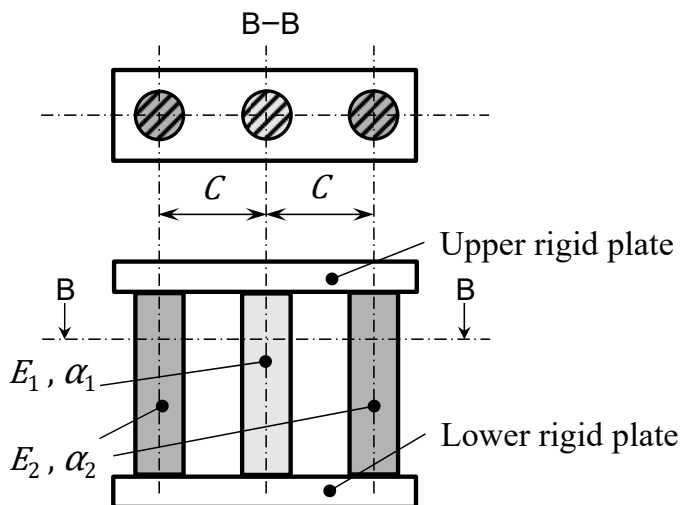
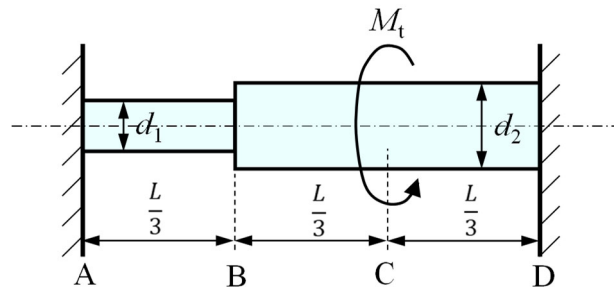

Fig. 1
Fig. 4
1. There are three columns whose cross-sectional area is  $A_0$  and whose natural length at temperature  $T_0$  is  $L_0$ . These three columns are bonded to the rigid plates at the top and bottom ends, as shown in Fig. 1. The column located in the center of the rigid plate has a longitudinal modulus of elasticity of  $E_1$  and a linear expansion coefficient of  $\alpha_1$ , while the two columns located at distance  $C$  on both sides of the central column have a longitudinal modulus of elasticity of  $E_2$  and a linear expansion coefficient of  $\alpha_2$ . Here,  $0 < E_1 < E_2$  and  $0 < \alpha_1 < \alpha_2$ . Ignore the self-weight of the columns and rigid plates. Answer the following questions.
3. Consider a stepped solid circular shaft shown in Fig. 4. The diameter and length of section AB are  $d_1$  and  $L/3$ , and those of section BD are  $d_2$  and  $2L/3$ , respectively.  $d_1$  is smaller than  $d_2$ . The shaft is fixed at the both ends, A and D, to vertical rigid walls. The shear modulus of the shaft material is  $G$ . As shown in Fig. 1, the shaft is twisted by the torsional moment  $M_t$  at position C, midpoint of section BD. Answer the following questions. Describe also the processes of deriving the answers. Ignore stress concentration.